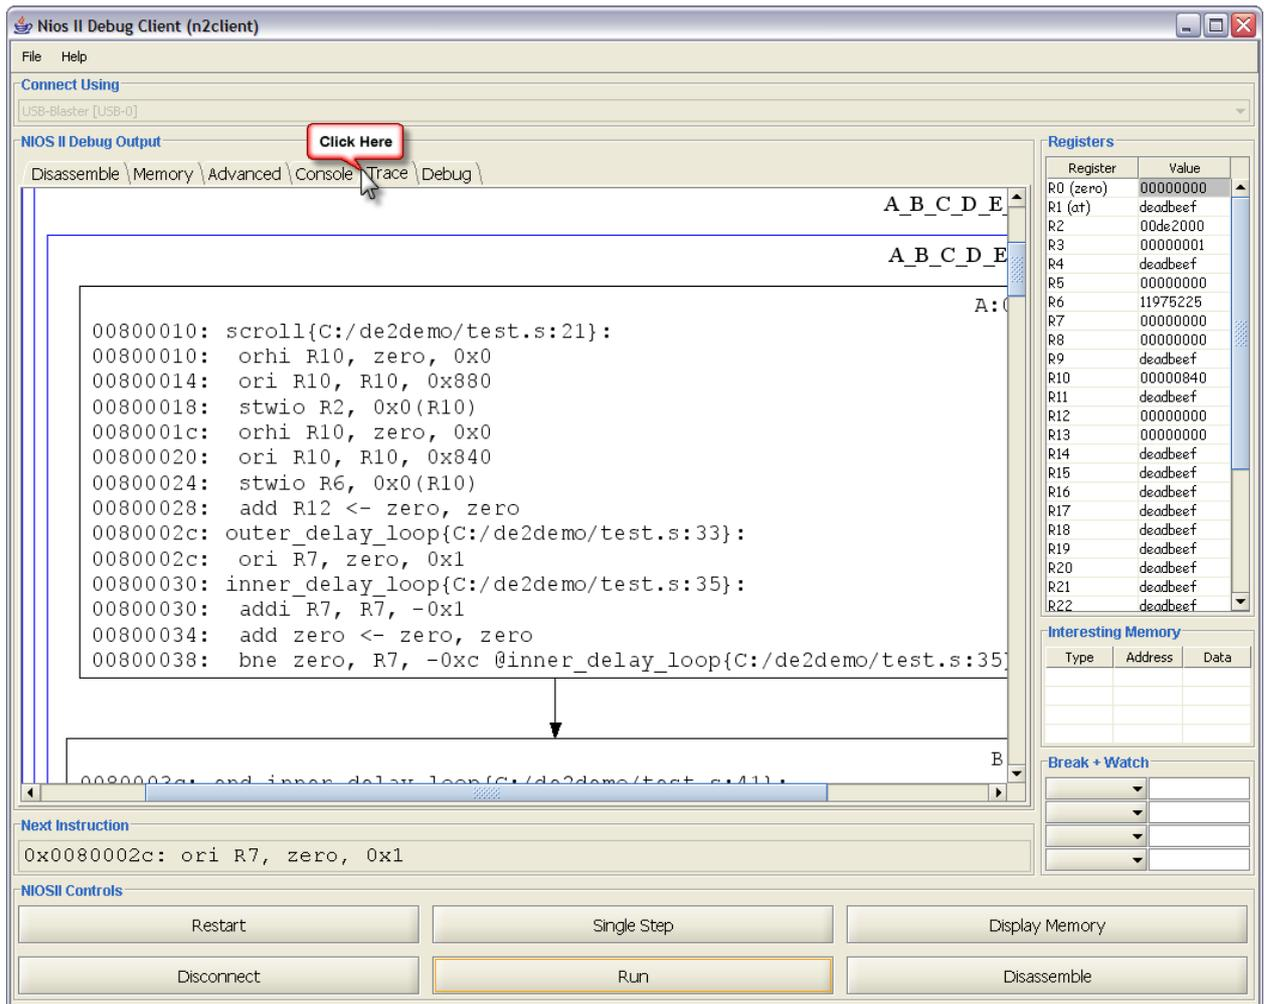

Figure 14: Instruction Trace.
- Once the application has been halted, the user can view an instruction trace that shows the recently executed instructions just before the point at which the halt occurred. This is accomplished by clicking on the **Trace** tab as shown in Figure 14.